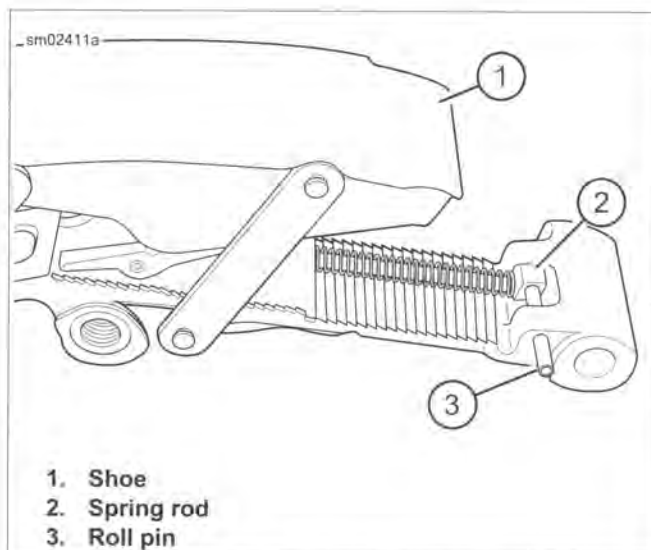

Figure 5-15. Spring Rod Location
- See Figure 5-15. Locate end of spring rod (2) on roll pin (3).